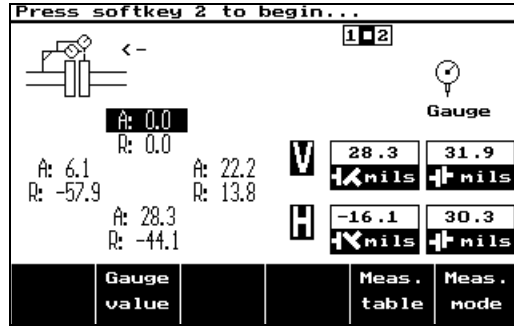

Figure 16
10) Now press the **OK** softkey and obtain your converted dial indicator readings, as shown in Figure 16. (In this example, sag values of zero were entered in step 9).